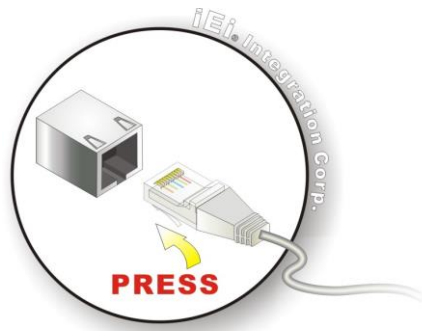

Figure 3-17: LAN Connection
Step 2: Align the connectors. Align the RJ-45 connector on the LAN cable with one of the RJ-45 connectors on the TANK-630-EHL Series. See Figure 3-17